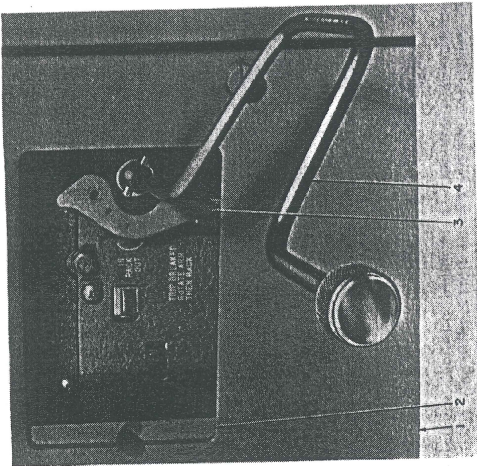

Fig. 3 — Method of Racking Circuit Breaker
Engage racking crank (4, Fig. 3) and push racking unlocking lever (3) to left, then rotate racking crank counterclockwise until resistance to motion is felt. (DO NOT FORCE.)
To rack circuit breaker to "TEST" position, push racking unlocking lever (3, Fig. 3) to left, rotate racking crank approximately 1/4 turn clockwise, then release unlocking lever. Continue cranking until racking mechanism automatically stops at "TEST" position.
FOR SAFETY: When racking circuit breaker to "CONNECTED" position, close compartment door (1, Fig. 3) and insert racking crank (4, Fig. 3) through sliding panel (2, Fig. 3).
(See Fig. 3)